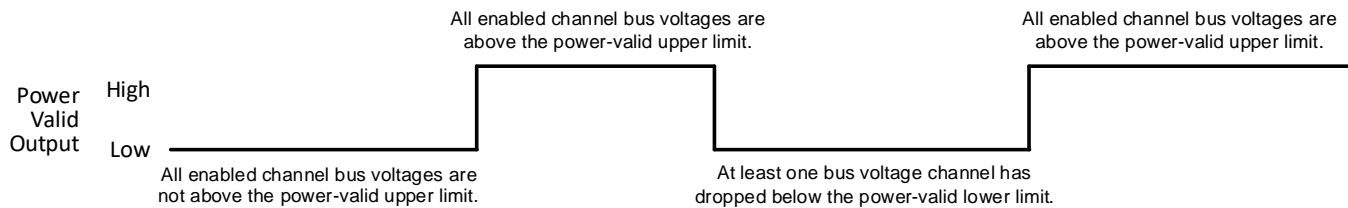

Figure 3. Power-Valid State Diagram
When all three bus-voltage measurements meet or exceed the threshold programmed in the Power-Valid Upper-Limit register, the power-valid (PV) alert pin is set to high-impedance. Initially, the PV alert pin remains in a low state and only transitions to a high state when the power-valid conditions are met. This high state indicates that all bus-voltage rails are operating above the power-valid upper-limit value. Figure 3 illustrates the sequence of this operation.